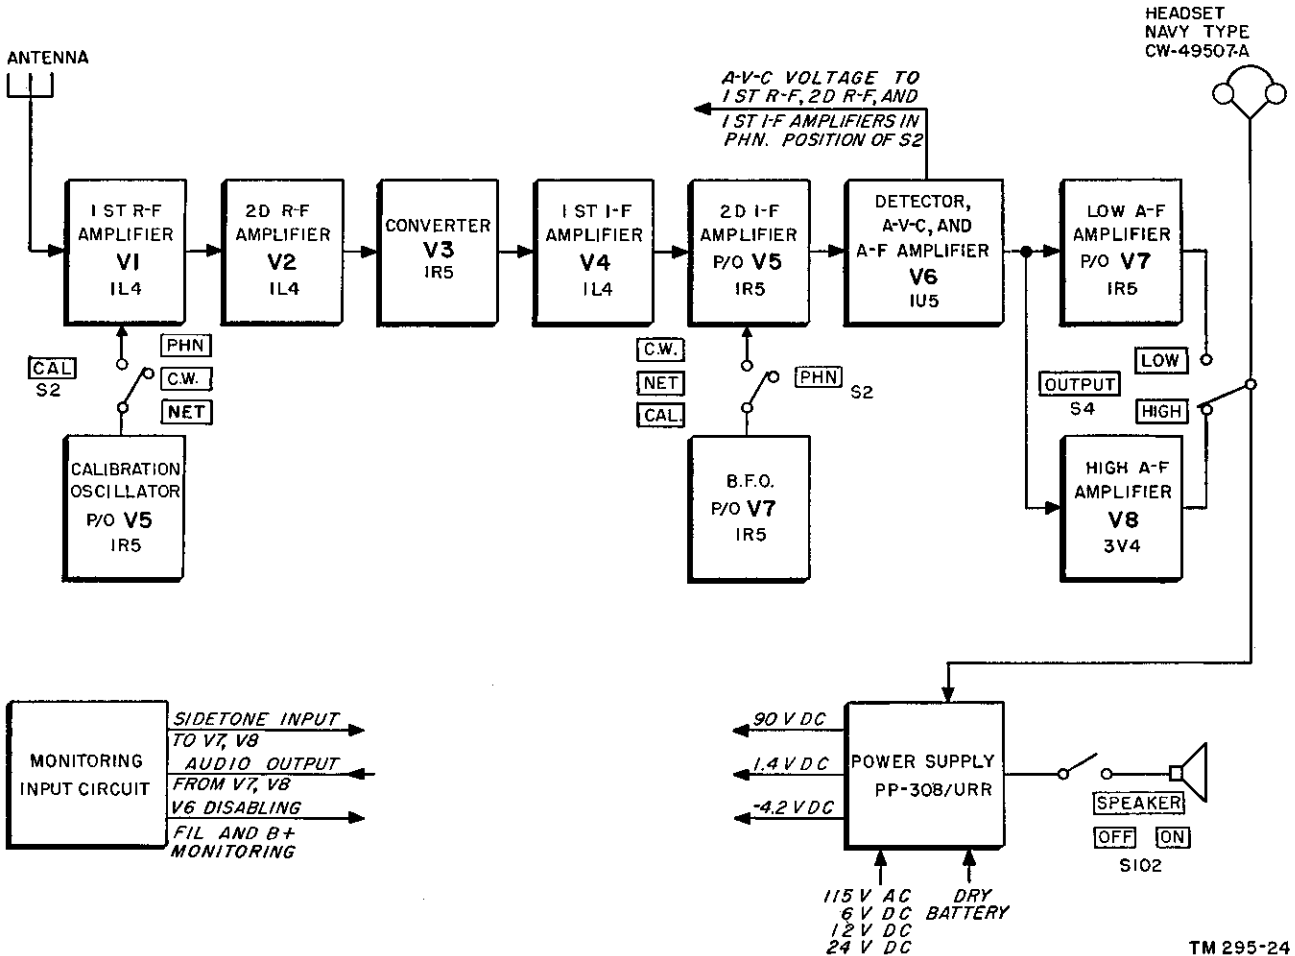

Figure 23. Radio Receiver R-174/URR, block diagram.
(fig. 23)
a. Radio Receiver R-174/URR is a portable receiver operating over a frequency range of 1.5 mc to 18 mc. Either a-m or c-w signals may be received. The signal path is shown in figure 23.